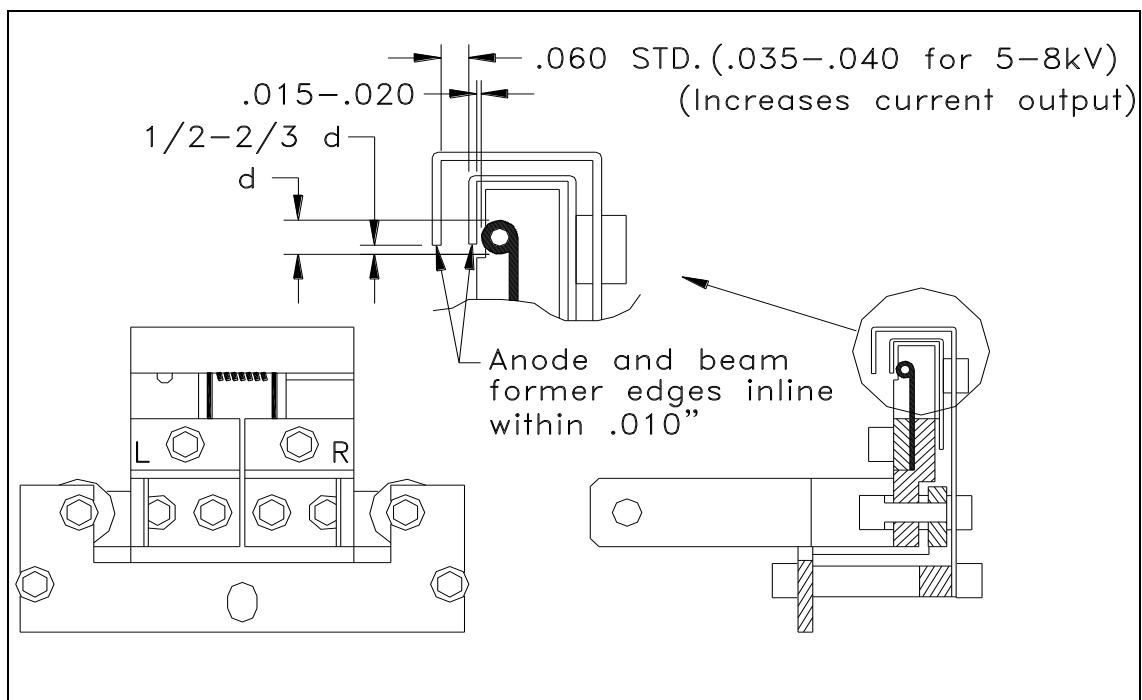

Figure 2-B Filament Location
- 9** Install the new filament, making sure that the filament orientation is correct (see figure 2-A). Using new #6 x 1/4" screws, loosely mount the filament clamps in place. Gently tap the emitter assembly on a flat surface to settle the filament into place. Slide the filament clamp on the right cathode block until it is flush with the right side of the block. Snug the right #6 x 1/4" screws. Gently push the left hand clamp into place. NOTE: Sliding this clamp can cause the filament to warp or bow. Snug the left #6 x 1/4" screws. Now check the alignment of the filament to the beam former.
- 13 Push down on the Anode and tighten the last two #6 x 1/4" screws. Check the alignment of the Anode to the beam former (see figure 2-B). The rebuilt emitter assembly is now ready to be installed back in the EB-source.